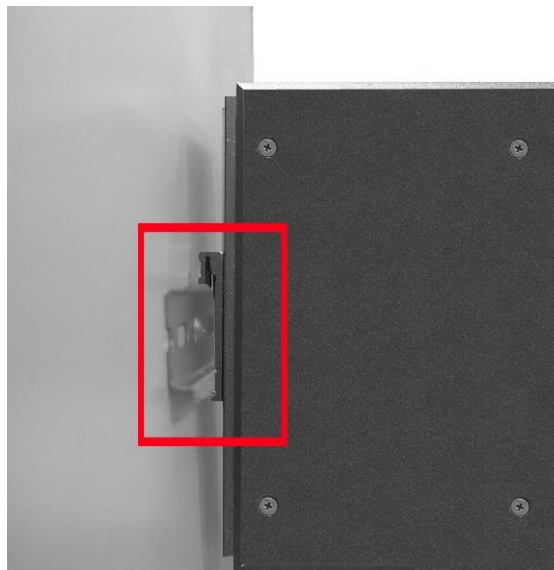

Figure-12
4. Then, lightly pull-down the bracket into the rail as shown in **Figure-12**.